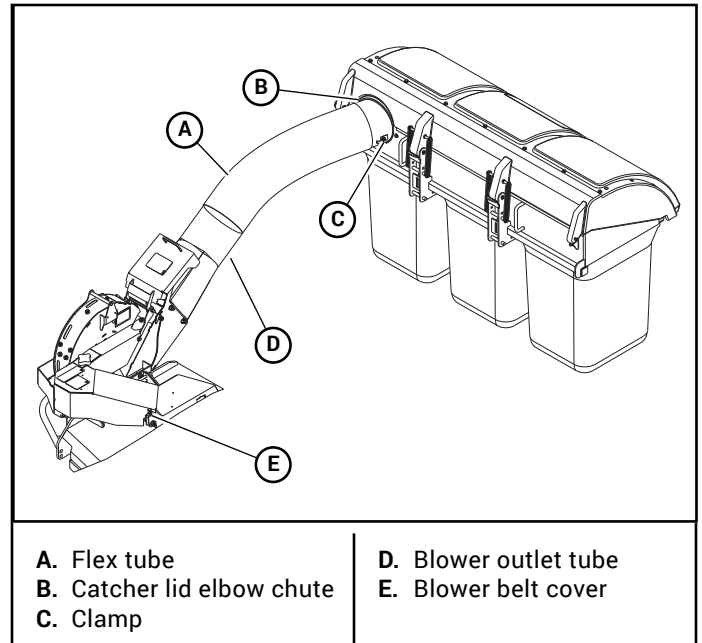

Figure 4-4
2. Remove the flex tube from the Catcher inlet tube and blower outlet tube. Figure 4-4
3. Remove the blower outlet tube from the blower assembly. Figure 4-4